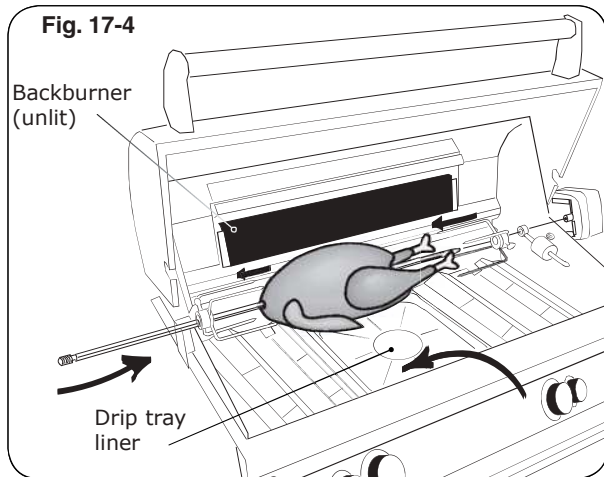

Fig. 17-4
4. Slide the left meat holder onto the rod (and tighten), the meat onto the rod and into the holder, followed by the right meat holder onto the rod and into the meat as shown in Fig. 17-4. Tighten the right meat holder. Be sure the meat is centered and balanced as well as possible.
11. To keep drippings off the burners and simplify cleanup, place Fire Magic® drip tray liners under the meat, if desired (Fig. 17-4).